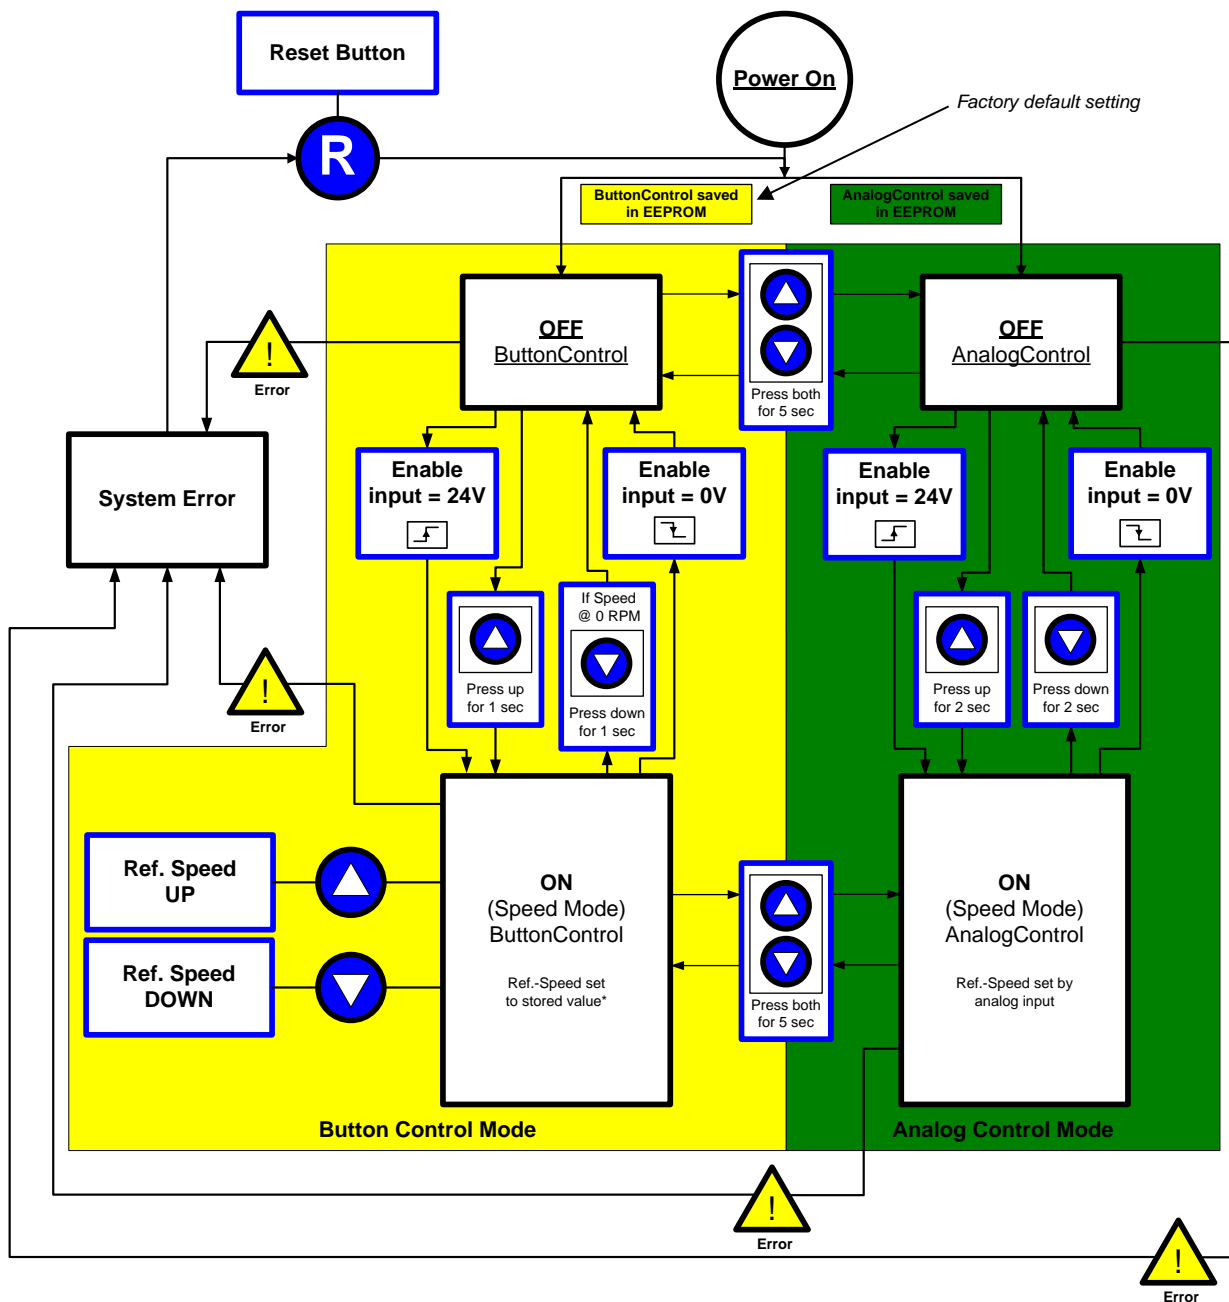

Figure 31: State diagram for operation with *LPC-600.1* controller
The controller *LPC-600.1* allows stand-alone operation with manual speed setting ("Button Control Mode") as well as extended operation with analogue speed setting (Analog Control Mode). *Figure 31* shows the state diagram which can be controlled with the manual buttons and the signals on the "USER INTERFACE" connector. The operation mode can be chosen by pressing the "UP" and "DOWN" buttons simultaneously during 5 seconds. For the standard firmware D6.25 default setting ex factory is "Button Control Mode".
- When applying power the system defaults into the “*Button Control Mode*” and goes into the status “*OFF Button Control*” according to *Figure 31*. Levitation is disabled and the display indicates “*OF*”.